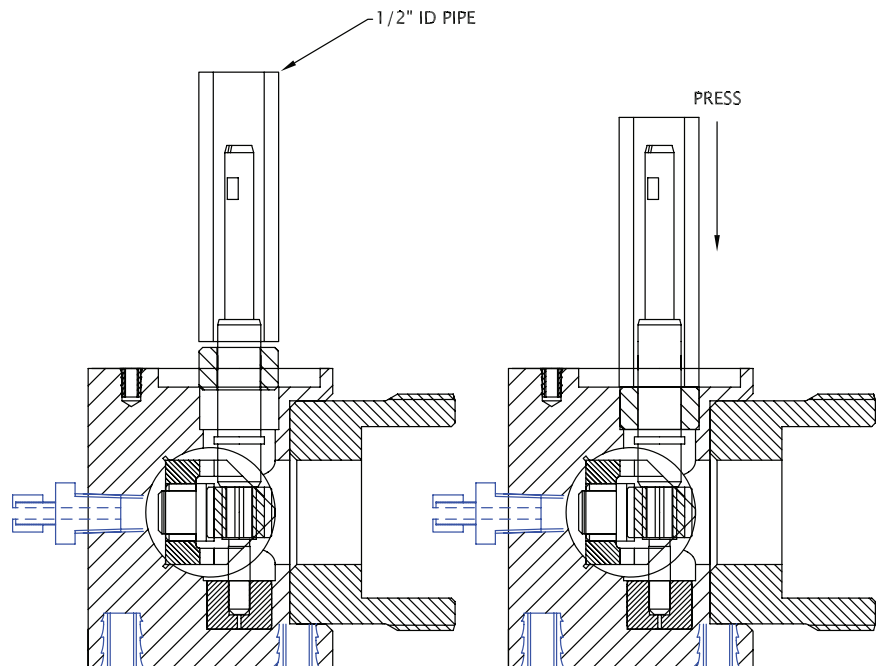

Figure 4.3 - Installing Upper Teflon Bushing
- j. Install upper teflon bearing by sliding bearing (11) over the top of the operating shaft (10) until the bearing sets in the bore of the body assembly. Press the bearing into its bore by using a 4" long piece of ½" diameter schedule 40 plastic pipe (refer to Figure 4.3).